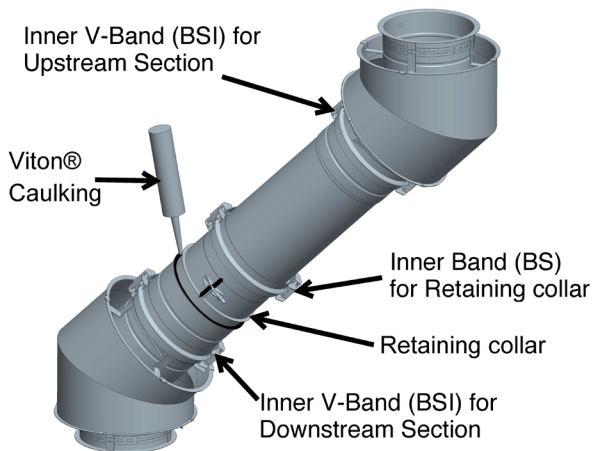

Figure 37- Step 7-9- Secure the Double Flanged Sleeve and seal the Retaining Flange Collar
Step 8 - Apply thin layer of sealant inside the retaining collar, and also a continuous bead of sealant at the collar overlap seam. See **Figure 37**.